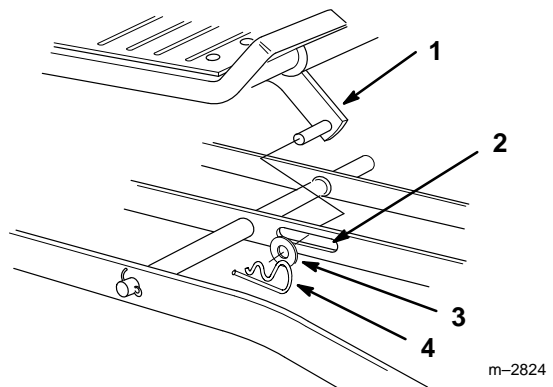

Figure 4
4. Slide the mower under the chassis from the right side and align attachment lift with slot in center lever bar (Fig. 4).
6. Place attachment lift pin into slot in center lever bar and secure with 3/4" (19 mm) washer and hairpin cotter (Fig. 4).